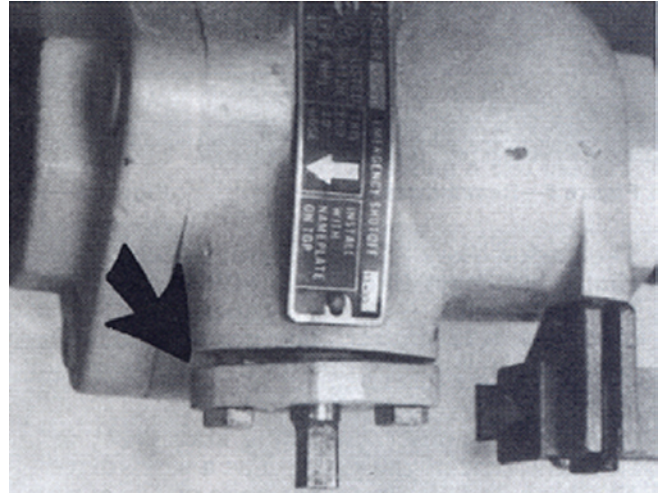

Figure 1. Uneven gland bolts could cause binding
If the binding appears to be internal, it could be from uneven or over-tightened gland bolts (key 33), refer to Figures 1 and 24. Try loosening these two bolts one-half turn each, and tap the shaft (key 15) lightly side to side to align the gland and follower bearing. Snug the bolts down evenly, only tight enough to prevent leakage. If this does not free the handle, the packing must be removed and be either cleaned or replaced.